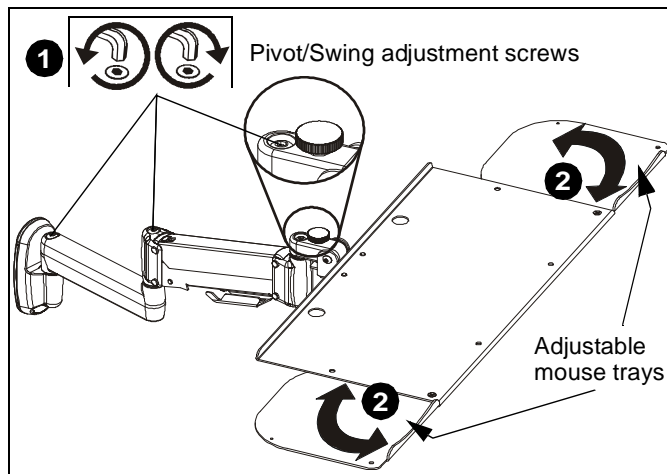

Figure 9
1. Slightly loosen or tighten the adjustment screw(s) as necessary, using the 3/16" hex key (K). (See Figure 9)
2. Mouse trays slide open and closed on both sides of the tray for use by both right- and left-handed users. (See Figure 9)